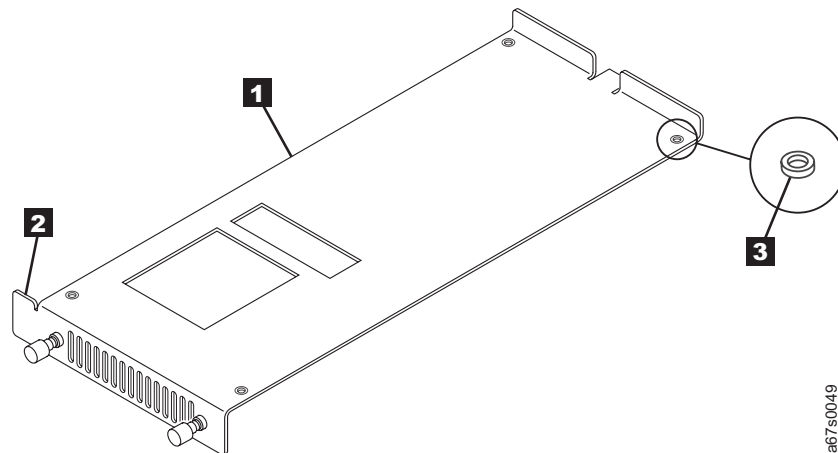

Figure 46. Identifying the left and right sled. The left sled features a left ear; the right sled features a right ear.
1. Decide which sled (see **1** in Figure 46 on page 118) onto which you want to mount the 3581 Tape Autoloader. The left sled features a left ear **2**; the right sled features a right ear. The two sleds are not interchangeable within the rackmount tray.